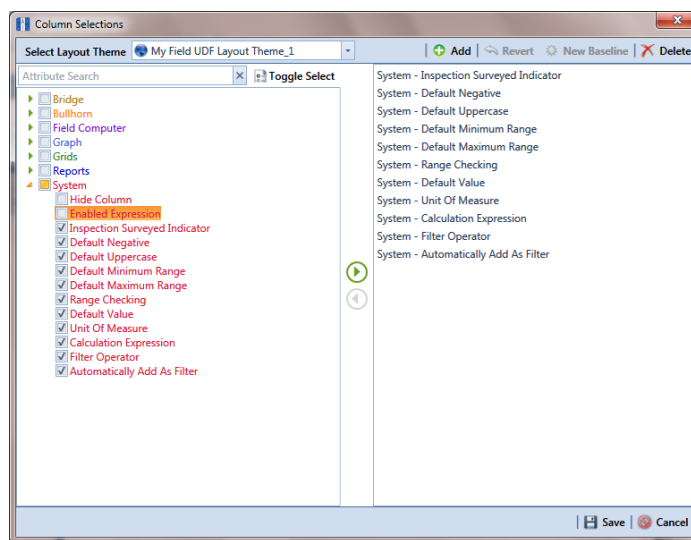

Figure 3-32. Column Selections
- 8 Choose which fields to include in the layout theme. Select a field in the left pane and then click the top arrow button  to move the field to the right pane. Repeat this step as needed (Figure 3-32, page 73).
- a Click  **Customize** to open the *Column Selections* dialog box (Figure 3-32, page 73).